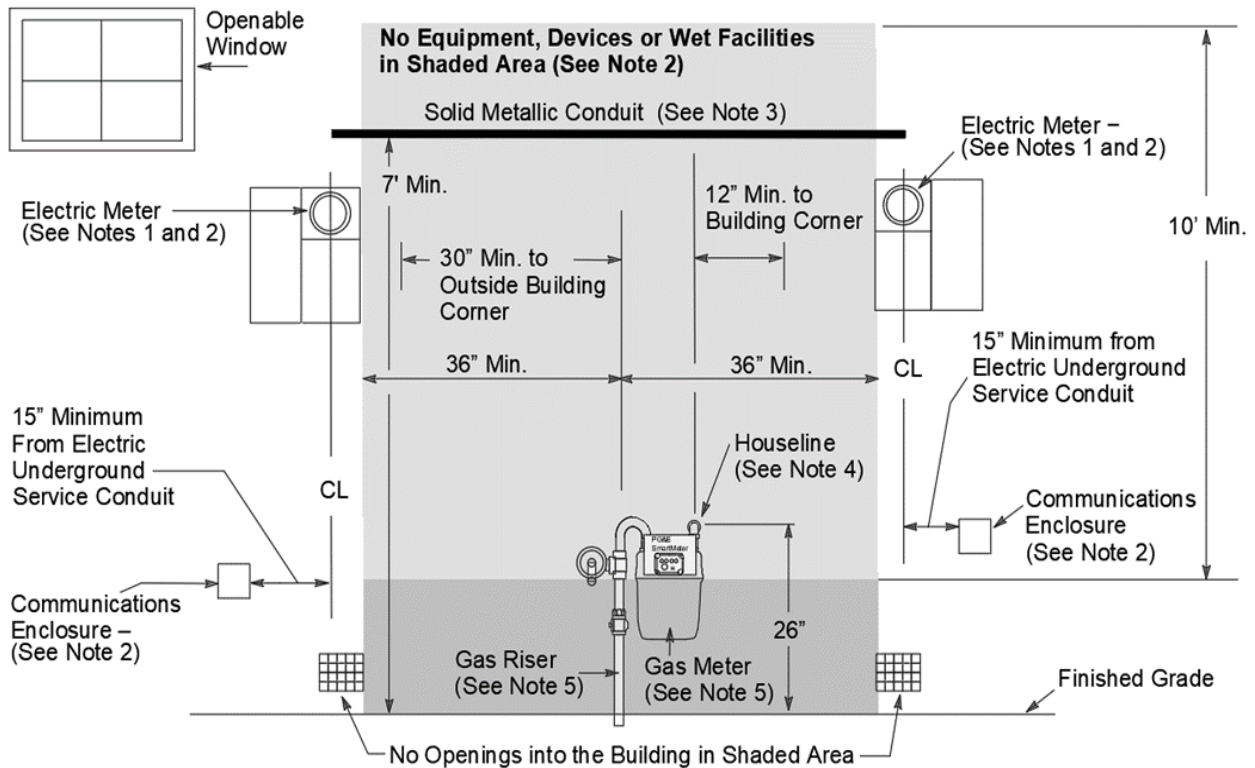

Figure 4. Gas Meter Set Separation Dimensions and Clearances
- (1) The regulator vent must not terminate near any sources of ignition or openings into the building. The riser must be a minimum distance of 36 inches from sources of ignition, electrical equipment, and openings into the building, and this clearance area extends 10 feet above and 36 inches below the regulator vent termination. (See Figure 4.)
- (2) For a large meter set or multi-meter manifold, the clearance requirement is 36 inches from the riser and extends 12 inches beyond the furthest Company meter set equipment, 10 feet above the highest regulator vent, and 36 inches below the lowest regulator vent.
- (3) No wet facilities, such as water pipes, downspouts, sewers, or drainage pipes are allowed in the gas meter set clearance area.
- (4) These clearance distances extend around outside corners.
B. Notes in reference to Figure 4:
- (1) Company electric meter panel locations are subject to utility approval and must comply with the applicable code requirements. Electric meter clear and level workspace will be enforced per the Greenbook (Manual TD-7001M), Section 5.
- (2) Applicants must not install any sources of ignition or electrical devices or equipment, including wires, cables, metering enclosures, telecommunication enclosures, bond wires, clamps, or ground rods within the shaded area around the gas meter.
- (3) A solid and continuous metallic conduit without couplings, joints, or connections is allowed to run completely through the shaded area at 7 feet or higher above the finished grade.
- (4) Place the gas service riser 6 inches to 9 inches from the finished wall. The completed customer house line at the service delivery point extends 4 to 9 inches out from the finished wall where the meter is to be set and 26 inches above the finished grade.